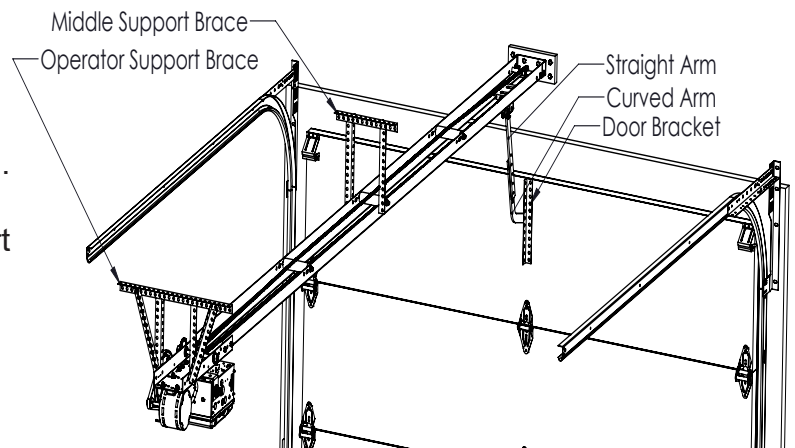

FIGURE 6
3. With the rail in line with the wall mount, install the appropriate support bracing. (If the track is longer than 15' a middle support brace is recommended). (Figure 6)
2. Install the door bracket to the top section of the door and in-line with the rail using suitable hardware. Many installations, except solid wood doors, will require additional support for the door. Refer to illustration. (Figure 6)